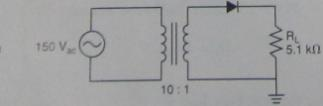

FIGURE 3.51
- Determine the transformer secondary V_{rms} in Figure 3.51.
- Determine the peak load voltage for the circuit shown in Figure 3.51.
- Determine the average (dc) load voltage for the circuit shown in Figure 3.51.
- Assume that the diode in Figure 3.51 is reversed. Determine the new values of $V_{L(\text{pk})}$, V_{ave} , and I_{ave} for the circuit.
- Determine the PIV for the diode in Figure 3.51.